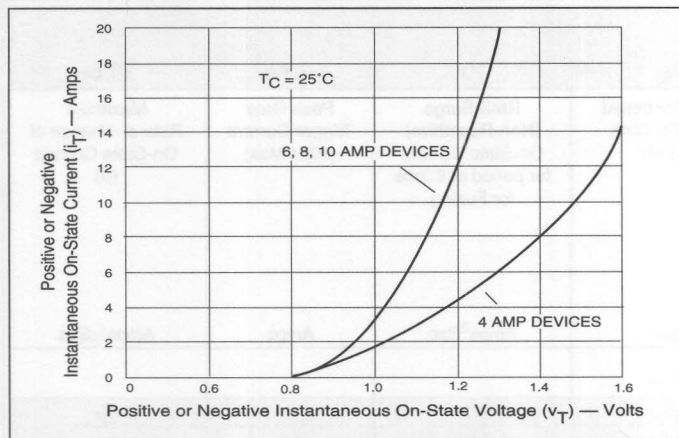

Figure 3.4 On-State Current vs On-State Voltage (Typical) (4-10 Amp)
- See Figures 3.4 and 3.5 for I_T vs V_T .